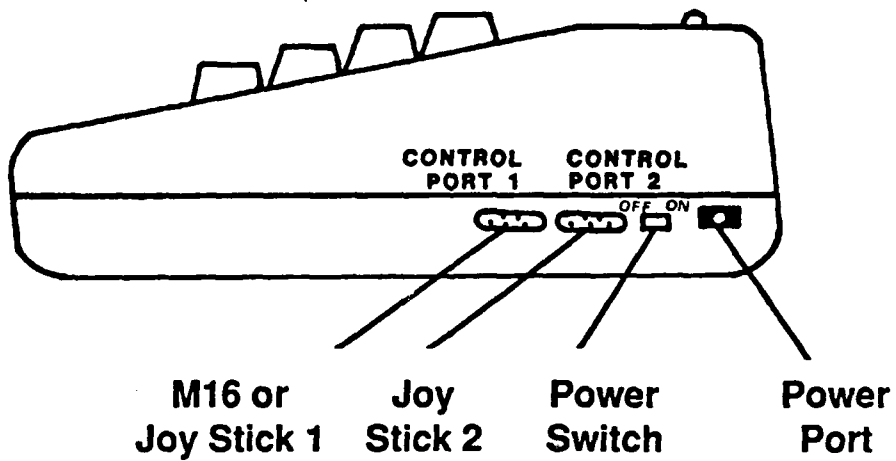
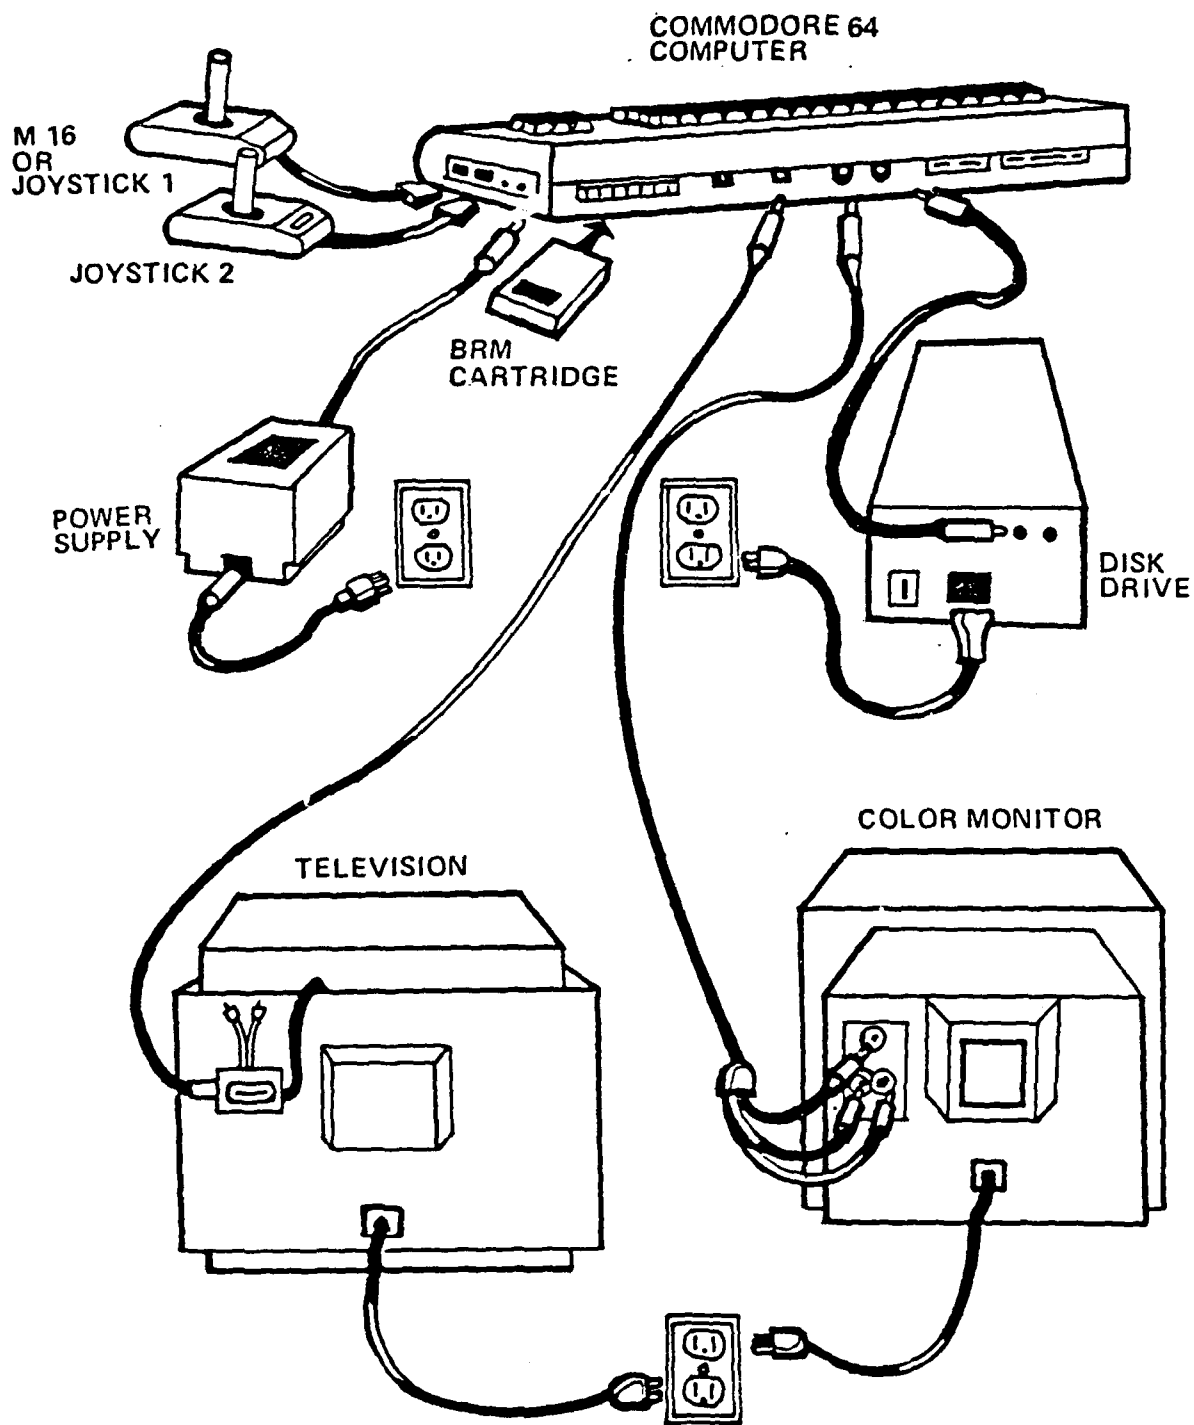

Figure 1. Back and right side view of Commodore 64
Figure 2. Setup locations of JMACS equipment
READ THE INSTRUCTIONS BEFORE ATTEMPTING SETUP! MAKE SURE THE COMPUTER IS NOT TURNED ON DURING THE SETUP PROCESS OR DAMAGE MAY OCCUR TO THE COMPUTER EQUIPMENT!! See Figure 1 for power switch location.
2. Using firm steady pressure, carefully insert the Basic Rifle Marksmanship (BRM) cartridge (label up) into the cartridge slot (see Figure 1). Gently rocking the cartridge left and right will ensure it is firmly seated in the back of the computer keyboard. THE COMPUTER MUST BE OFF BEFORE INSERTING THE BRM CARTRIDGE OR DAMAGE TO THE COMPUTER MAY RESULT!!
3. Plug the power supply cable (see Figure 2) into a three-prong wall outlet (120V AC) and the other end into the port marked "power" on the right side of the computer (see Figure 1).
4. When using the Commodore 13-inch color monitor, insert the three color-coded cable jacks into the corresponding three colored-coded sockets in the right rear of the monitor as shown in Figure 2 (white to white, yellow to yellow, red to red). Insert the plug end of the monitor cable into the audio/video port on the back of the computer (see Figure 1). The monitor cable will only fit the audio/video port. Do not try to force the cable in as it may damage the cable ends. Plug the monitor power cord into a three-prong wall outlet.
computer (see Figure 1) and plug the other end into the port marked COMPUTER at the top of the switch box.
6. Take one end of the disk drive/computer cable and connect into the port on the back of the disk drive and the other end into the port on the back of the computer (see Figure 2). Plug the power supply cable into the power supply port on the back of the disk drive and the other end in a three-prong wall outlet.
7. When using the M16 firing exercise programs, insert the cable plug from the demilitarized M16 into Control Port 1 on the right side of the computer keyboard (see Figure 1). When using the joystick insert the joystick controller cables into Control Ports 1 and 2.
1. Turn the computer on by pressing the on-off switch located on the right side of the keyboard (see Figure 1).